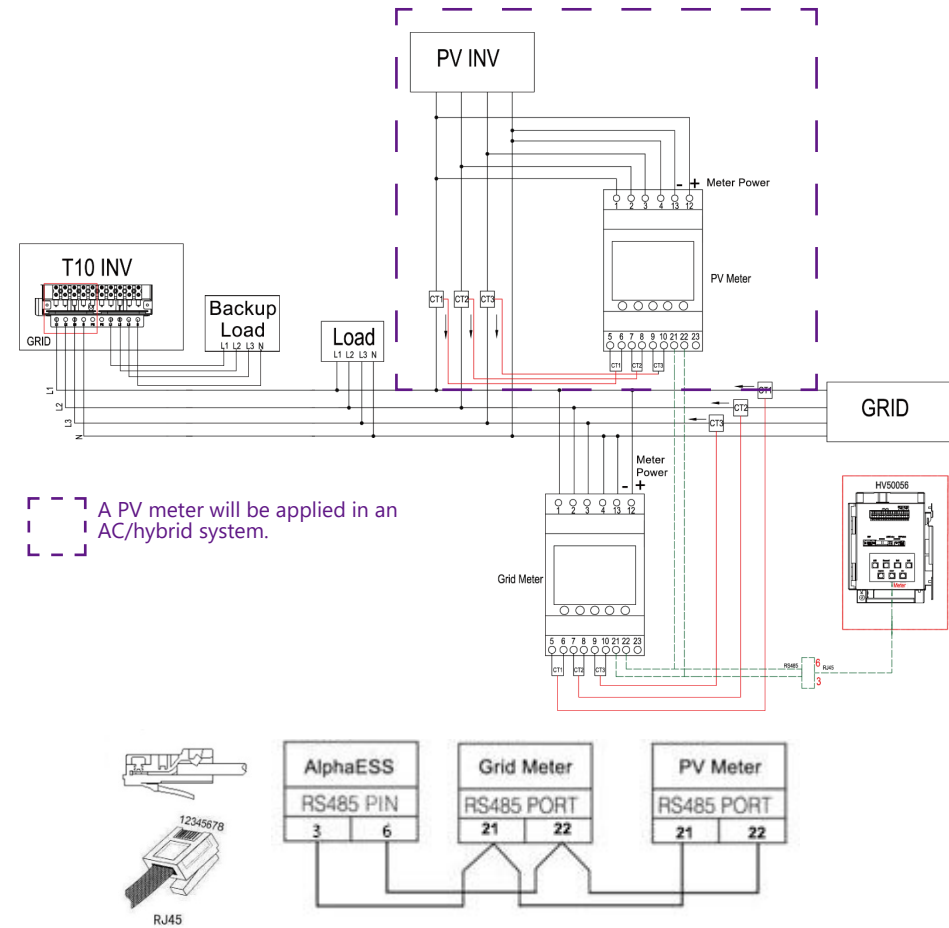

Figure 41 ACR10R with CT Connection (without Meter Plug)
**!** Note: When connecting CTs, pay attention to CT arrow directions, please refer to Figure 41.